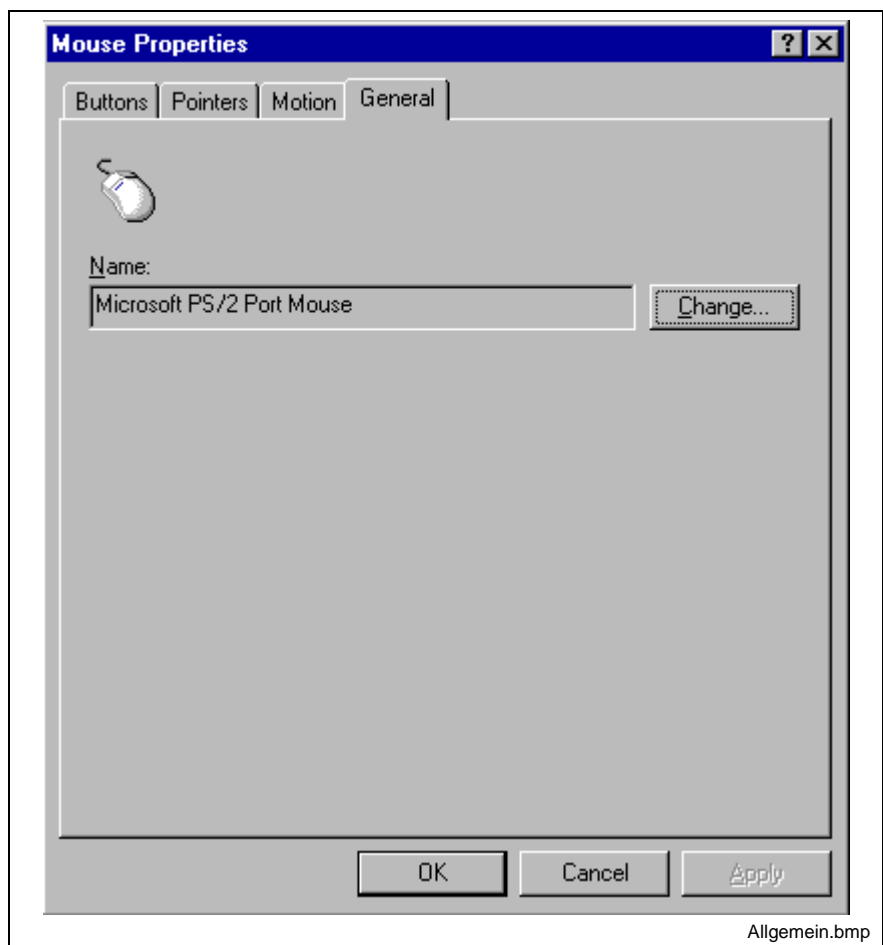

Abb. 5-3: Register button to set general mouse properties
- Fig. 5-3: Register button to set general mouse properties 5-2